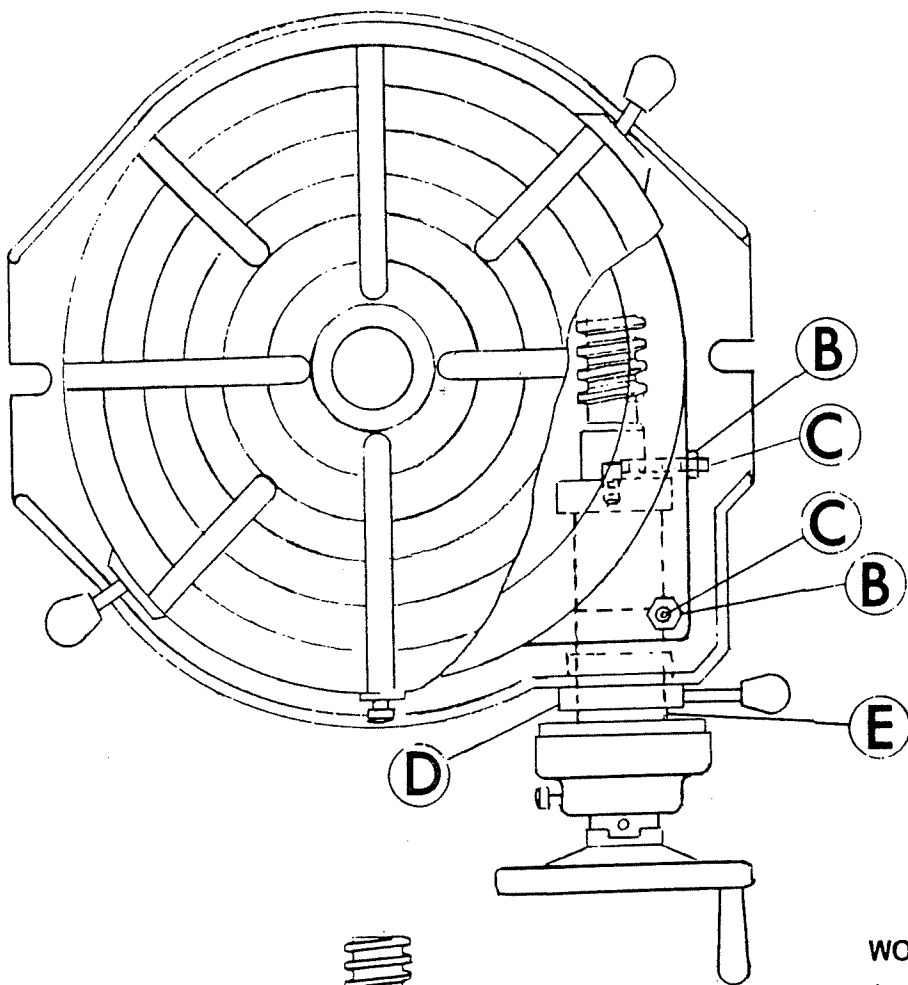

Fig. 1
1. Loosen Hex Nut B. (This Hex Nut is on the top of the base on Models U-9, U-12, U-15, U-18, R-18, R-21 and R-25 as shown in Fig. 1. The Hex Nut is on the side of the base on the Models R-9, R-12, R-15, T-18 and T-21 as shown in Fig. 2.)